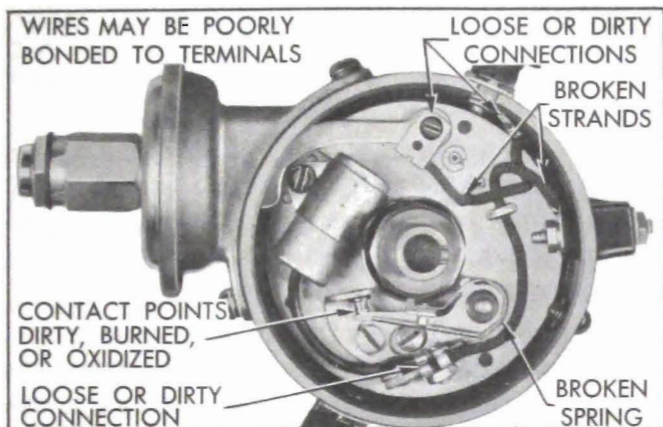

Figure 10-45—Points of Resistance in Primary Circuit of Distributor
1. Check contact point and condenser connector leads and breaker plate ground lead for loose or broken connections. Inspect for broken breaker arm spring and loose or broken rubbing block. See figure 10-45.